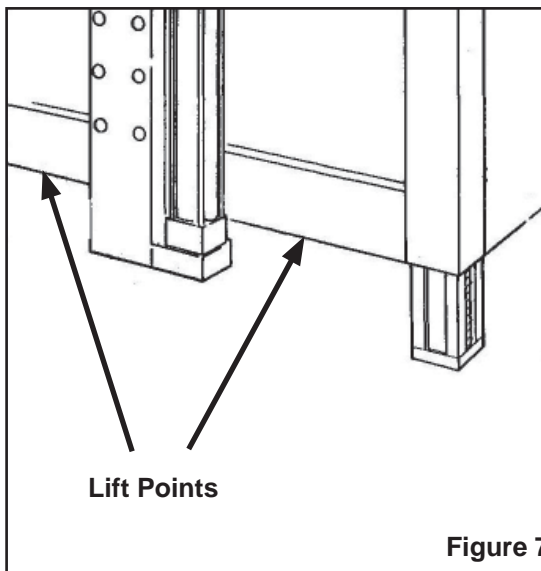

Figure 7-2
1. Lift the machine with belts or ropes paying attention to place the belts in the points (**Figure 7-2**). To set the machine bed height, do the following: